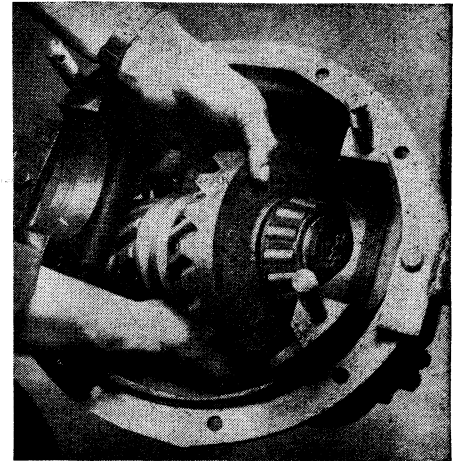

Fig. 18 Lifting out cross shaft assembly
22. Thread out cross shaft, Fig. 18.